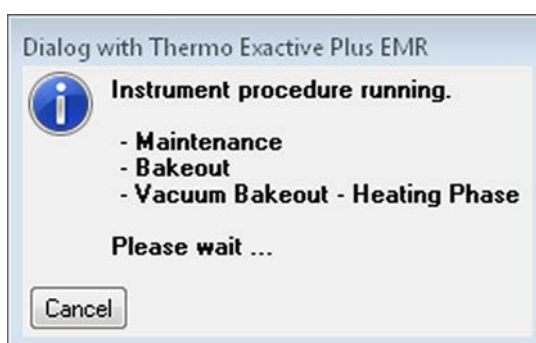

Figure 5-10. Message box: Vacuum Bakeout active
5. The message box disappears and the baking procedure starts. The instrument indicates the active bakeout procedure by a flashing Vacuum LED at the front side. Additionally, the Exactive Plus EMR Tune software displays a corresponding message box. See Figure 5-10.